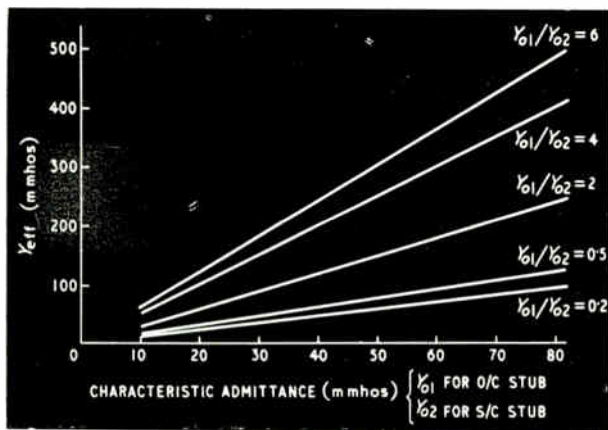
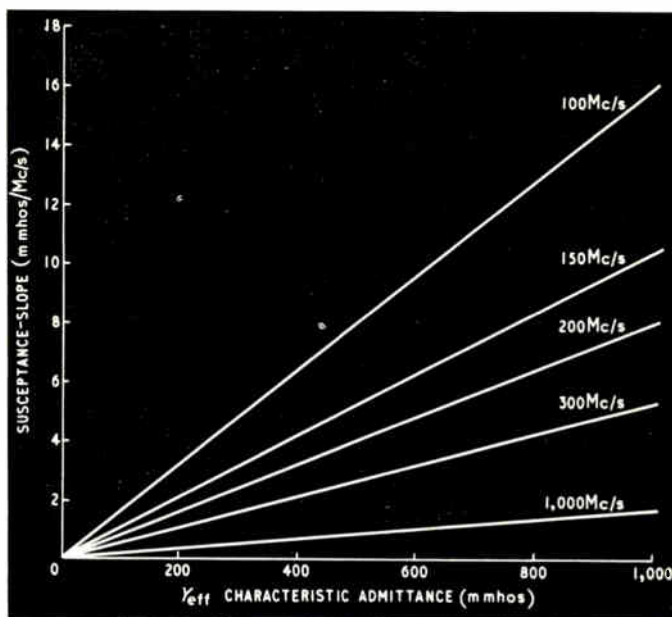
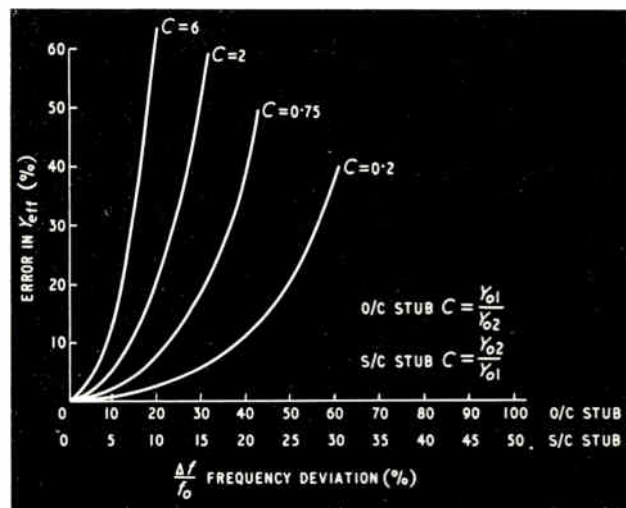

Fig. 3. The range of effective characteristic admittance obtainable from typical practical values of Y_{01} , Y_{02} , and their ratio
Fig. 4. The variation of susceptance-slope with effective characteristic admittance for various values of centre frequency
Fig. 5. The variation of error of calculated susceptance-slope with frequency deviation for typical Y_0 ratio values
The possibility of doing this arises because a television signal does not have a continuous frequency spectrum. Because of the scanning process the frequencies are all multiples of the picture repetition frequency 25 c/s. The amplitudes of all components of the spectrum are far from equal, however. Because of the line scanning the really important frequencies are the line repetition frequency and its harmonics. The 25-c/s harmonics are there but their intensity is greatest around the line frequency and its harmonics and falls off very markedly between them. The line frequency is 15.625 c/s and so the energy of the monochrome signal is concentrated around frequencies of 1, 2, 3, 4, 5, $n \times 15.625$ c/s and there is very little half-way between these frequencies. The general form of the spectrum is sketched in Fig. 3 (a).
The spectra of I' and Q' signals are similar. If these two signals can be combined in such a way that they can afterwards be separated, the resulting signal will have a similar discrete spectra. This resultant colour signal can then be used to modulate a sub-carrier having a frequency towards the upper end of the monochrome video-bandwidth, say around 4.5 Mc/s. If its exact frequency is made an odd multiple of half the line frequency its sidebands when modulated will all fall at frequencies which are half-way between the spectrum frequencies of the monochrome signal, as in Fig. 3 (b). The two spectra will interlace and can be added together, Fig. 3 (c). In theory, they could then be separated again by a comb filter but this is hardly practical and other means are used.
The design of the stub as a broad-band matching element is the same as for the open-circuit case except that from Fig. 3 suitable values of Y_{01}/Y_{02} and Y_{02} are taken in this case and secondly the length of line of characteristic admittance Y_{01} is made $\lambda/2$ at the mid-band frequency and the other length of line is made $\lambda/4$ at this frequency.
The approximate equation which is equation (4) has been used to calculate the values of Y_{eff} in Fig. 3 and hence before the information can be used in design it is necessary to know the error which is involved. Therefore in Fig. 5 is shown the percentage error in Y_{eff} as given by equation (4) for percentage deviation from f_0 . This is important, as in matching stub design one must consider the susceptance-slope as constant, an assumption only valid between limits of error as shown in Fig. 5.
(i) From a knowledge of the required susceptance-slope and the mid-band frequency the required value of Y_{eff} is read from Fig. 4.
(ii) From Fig. 3. suitable values of Y_{01} and Y_{01}/Y_{02} are determined.
(iii) From Fig. 5, the frequency range over which the assumption of constant Y_{eff} is sufficiently good can be estimated.
The range of effective characteristic admittances, Y_{eff} , obtainable for various real values of Y_{01}/Y_{02} is shown in Fig. 3, while Fig. 4 shows the variation of susceptance-slope with